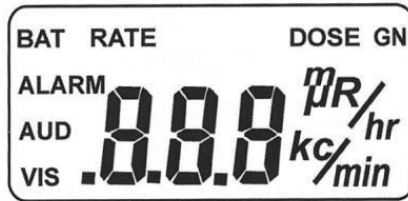

Figure 4 – The Test Display
4. While in Rate Mode, press and hold the **[CLR/TEST]** key until you see the test display in Figure 4 (approximately 4 seconds), and release the key.